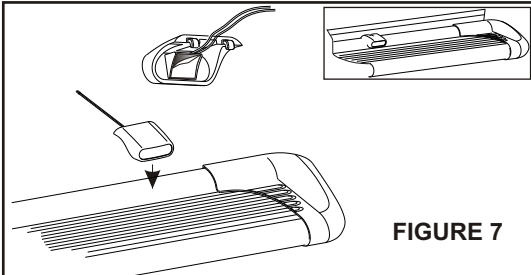
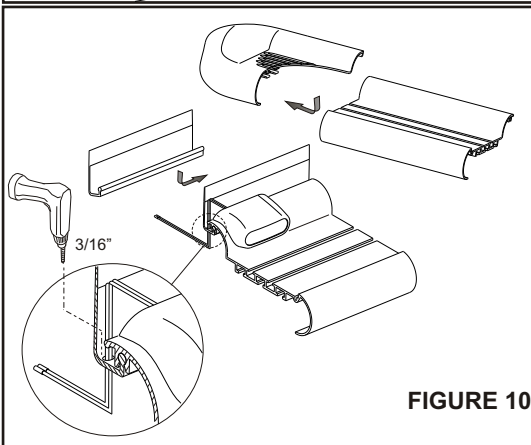

FIGURE 7
FIGURE 10
- STEP 5.** For Aluminum Running boards, if desired, slide closure strip as shown. Set lights (if included) in appropriate location. Attach to running board as shown (See Figure 7). Drill hole through plastic strip and run wires as shown (See Figure 10).